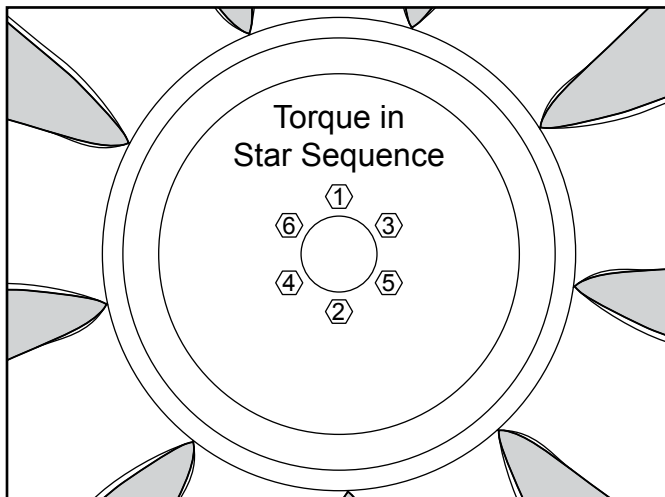

Figure 13. Tightening the Bolts
13. Using an air ratchet, install and tighten the bolts to the upper pulley in a star sequence. See Figure 13.